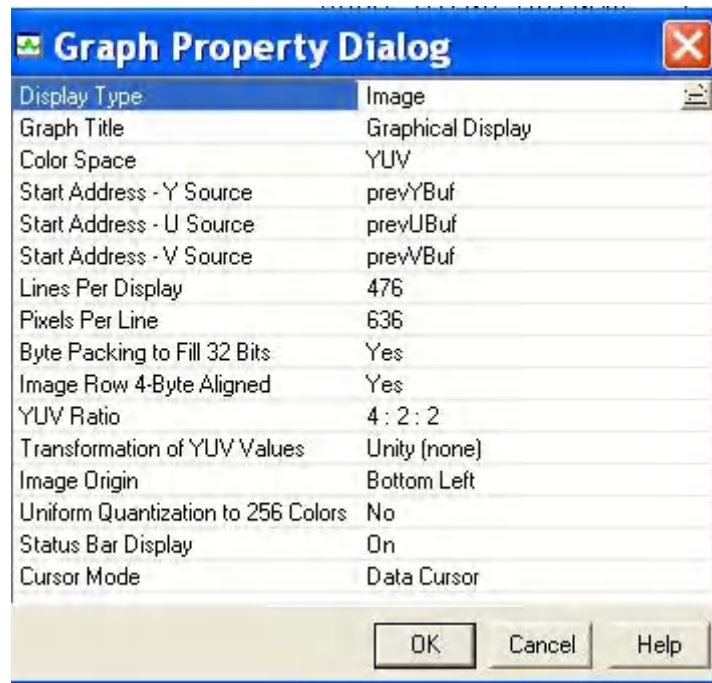

Figure 2. Graph Property Dialog settings for basic application
8. The Graph Property Dialog will be displayed as shown in Figure 2. In Graph Property Dialog window enter all configuration values as shown in Figure 2.